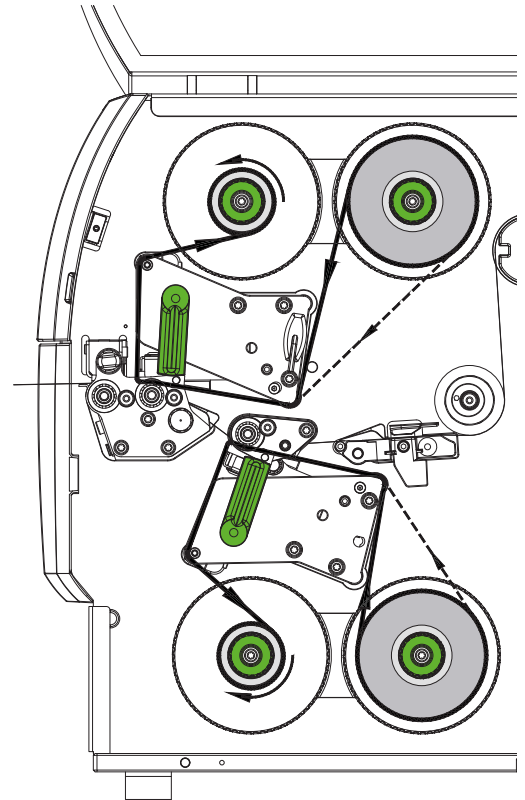

Figure 18 Transfer ribbon feed path
6. Slide suitable transfer ribbon core (4) onto the transfer ribbon take-up hub (5). Position and secure it in the same way like the supply roll.
7. Guide transfer ribbon through the print unit as shown in Figure 18.
8. Secure starting end of transfer ribbon to middle of the transfer ribbon core (4) with adhesive tape. Ensure counterclockwise rotation direction of the transfer ribbon take-up hub.
9. Turn transfer ribbon take-up hub (5) counterclockwise to smooth out the feed path of the transfer ribbon.
10. Turn lever (6) clockwise to lock the printhead.
11. Open the flap (8) and load transfer ribbon to the lower print unit (7) in a similar way. All previous statements of direction apply contrariwise excepting the turning of the knobs.